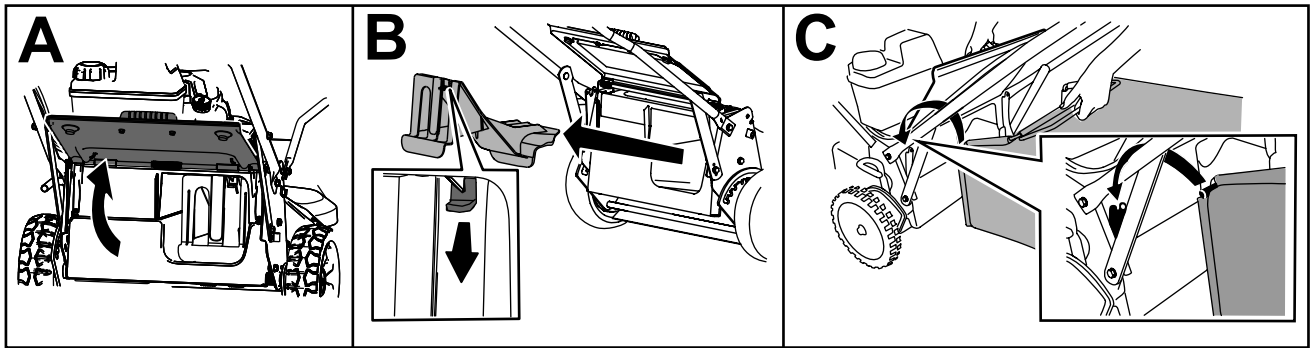

Figure 20
1. Raise and hold up the rear deflector (A of Figure 20).
2. Remove the rear-discharge plug by pulling down on the latch with your thumb and pulling the plug out from the machine (B of Figure 20).
3. Install the bag rod into the notches at the base of the handle, and rock the bag back and forth to ensure that the rod is seated at the bottom of both notches (C of Figure 20).